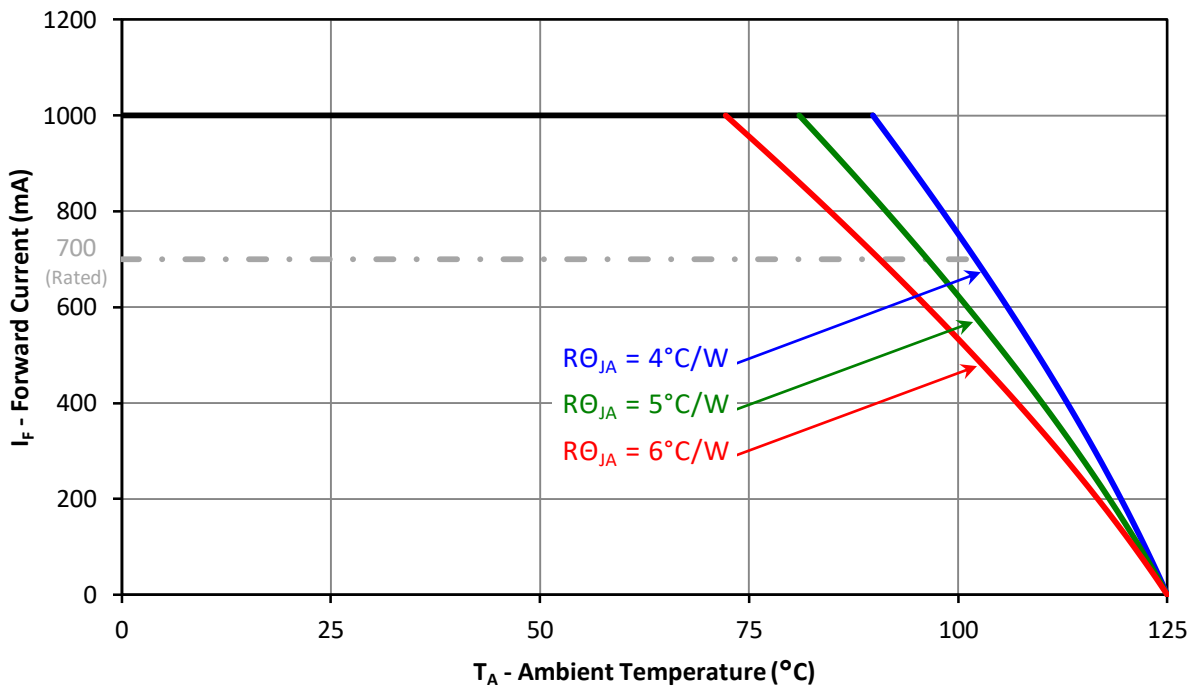

Figure 10: Maximum forward current vs. ambient temperature based on  $T_{J(MAX)} = 125^\circ\text{C}$ .
- Maximum DC forward current (per die) is determined by the overall thermal resistance and ambient temperature. Follow the curves in Figure 10 for current derating.
Notes for Figure 10: